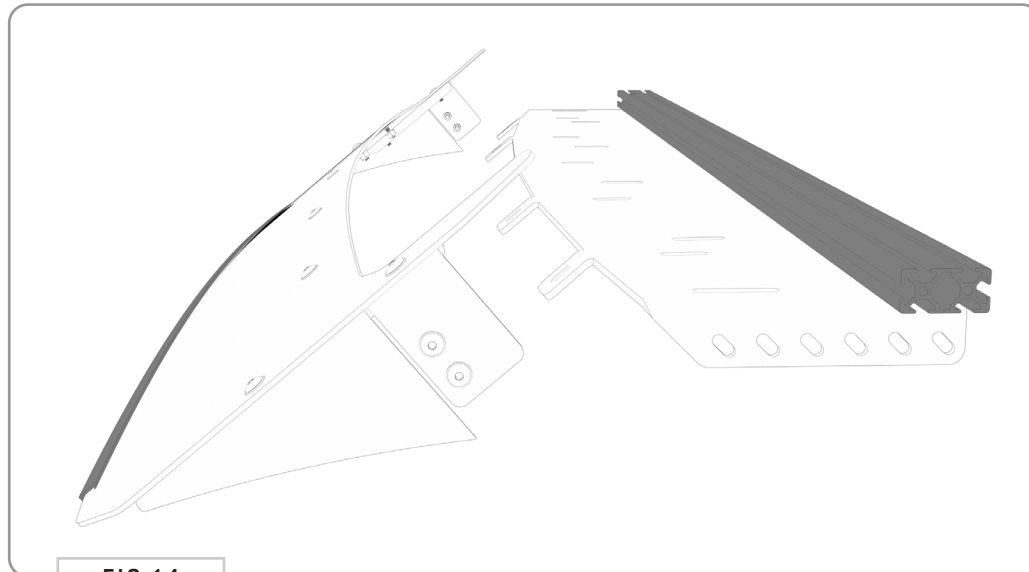

FIG 14
**4.5 Attach Front Fairing:** Attach the Front Fairing to the Assembly using 1/4-20 x 0.75 Flanged Button Head Screws, Flat Washers and Nylon Locknuts (FIG 14+15).